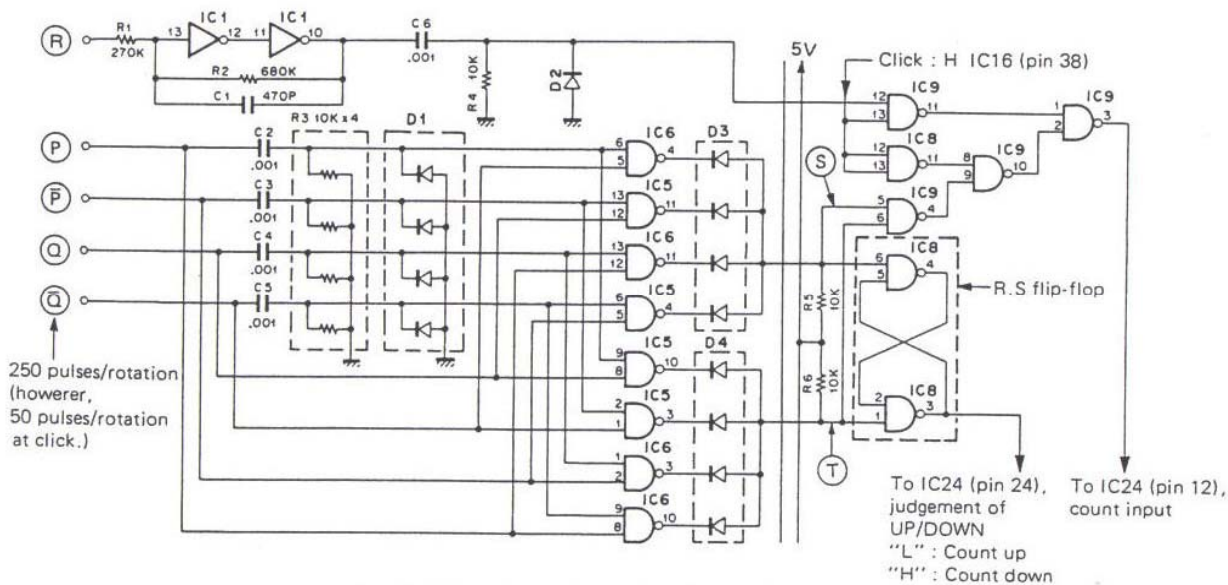

Fig. 13 Output waveform of main encoder
Fig. 12 shows the configuration of the encoder section. The control pulse of the main dial "click" detent mechanism is as shown in Fig.13. When operating the [CH.Q], [CS], [VFO/M], [M>V], [SELECT], etc., keys, the CPU performs its associated process, judges whether or not the dial is detented, and inputs the status signal of the sensor (pin PS) to IC16 PCO (pin 14). For example, when the dial detent is activated, as when the dial is already detented when pin PS is "H", the process ends. However, when pin PS is "L", a 100msec pulse is emitted from PA3 IC16 pin 17, thereupon the plunger drive pulse (PN) is emitted through the switching operation of Q12 : DTC143T(S), Q13 : 2SC2459(Y) or Q14 : 2SA1307(Y).